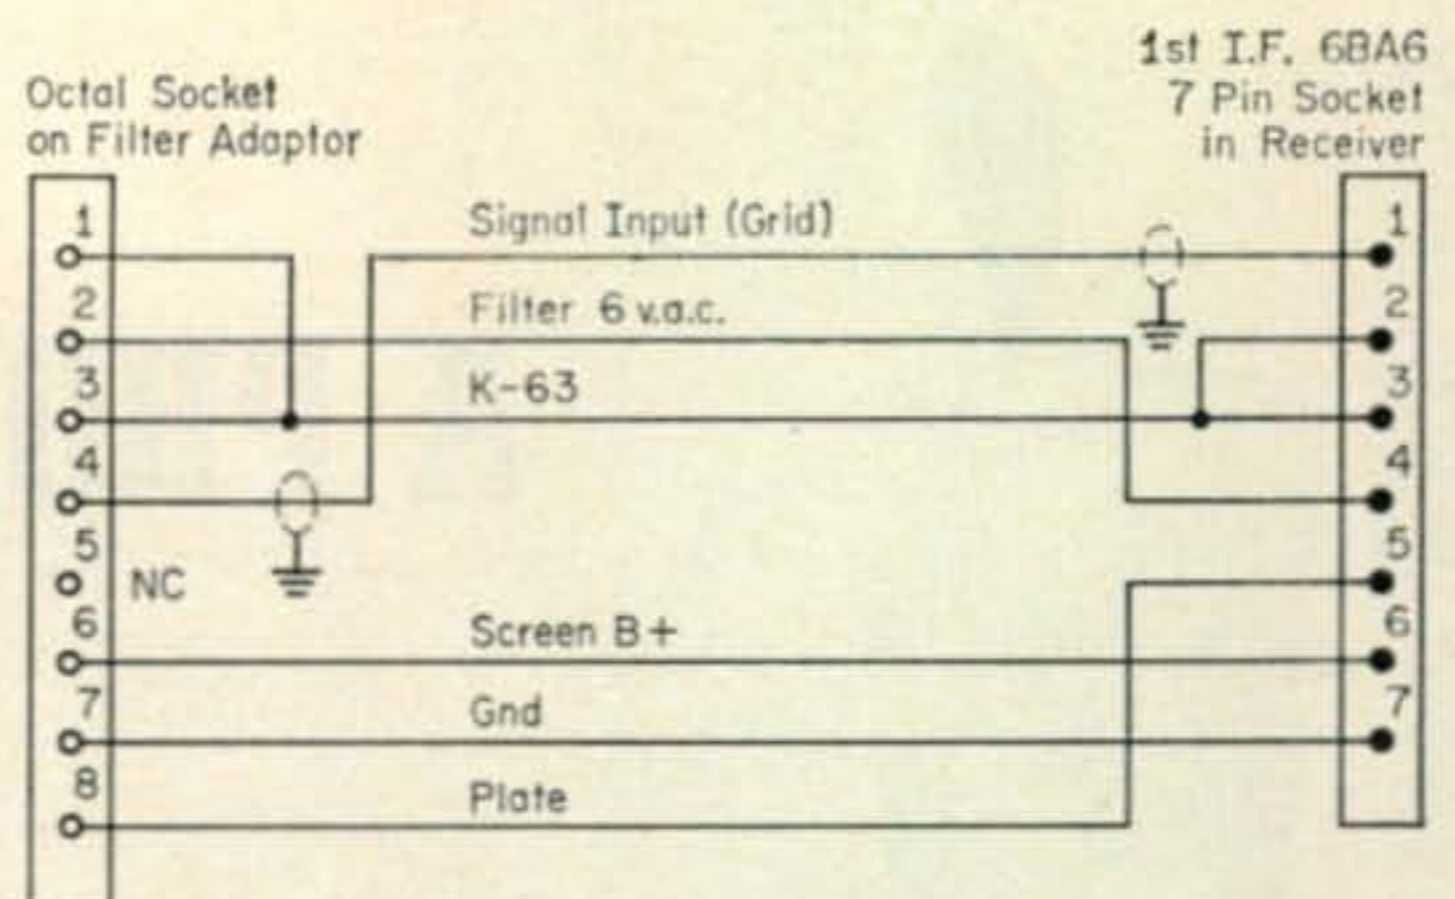

Fig. 2—Circuit of the adapter cable used for the Collins plug-in filter described in the text.
The pyramidal horn is a special case of a broad class of horn antennas where the side lengths are equal. One very interesting feature of the antenna is that if only two sides of the antenna are used, a choice of polarization and plane directivity can be obtained as shown in fig. 2. The minimum length of a side must be  $\frac{1}{2}\lambda$  at the lowest frequency used. The antenna can be considered as a non-resonant, high-pass device where the  $\frac{1}{2}\lambda$  side length determines the cutoff frequency.
Fig. 2—If the 4 sided pyramidal horn is considered as 2 sided structure, the form at (B) will produce vertically polarized emission while the vertically sided form (C) will produce horizontally polarized emission. In (B) and (C) all angles are  $60^\circ$  and all sides are  $\lambda/2$  or longer.